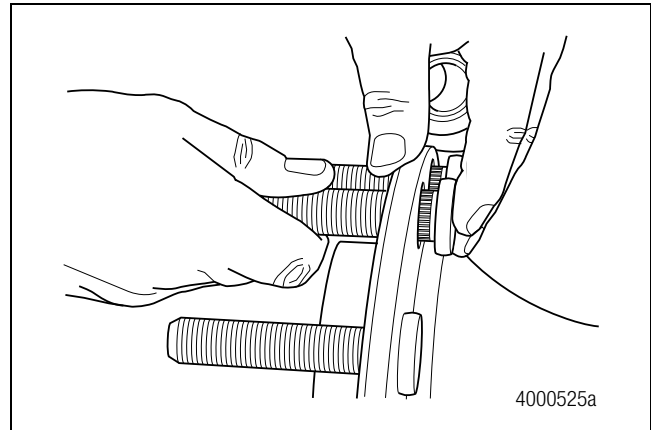

Figure 6.51
8. Position the new studs into the hub. Align the stud knurls with the impressions in the hub stud hole. Figure 6.51.